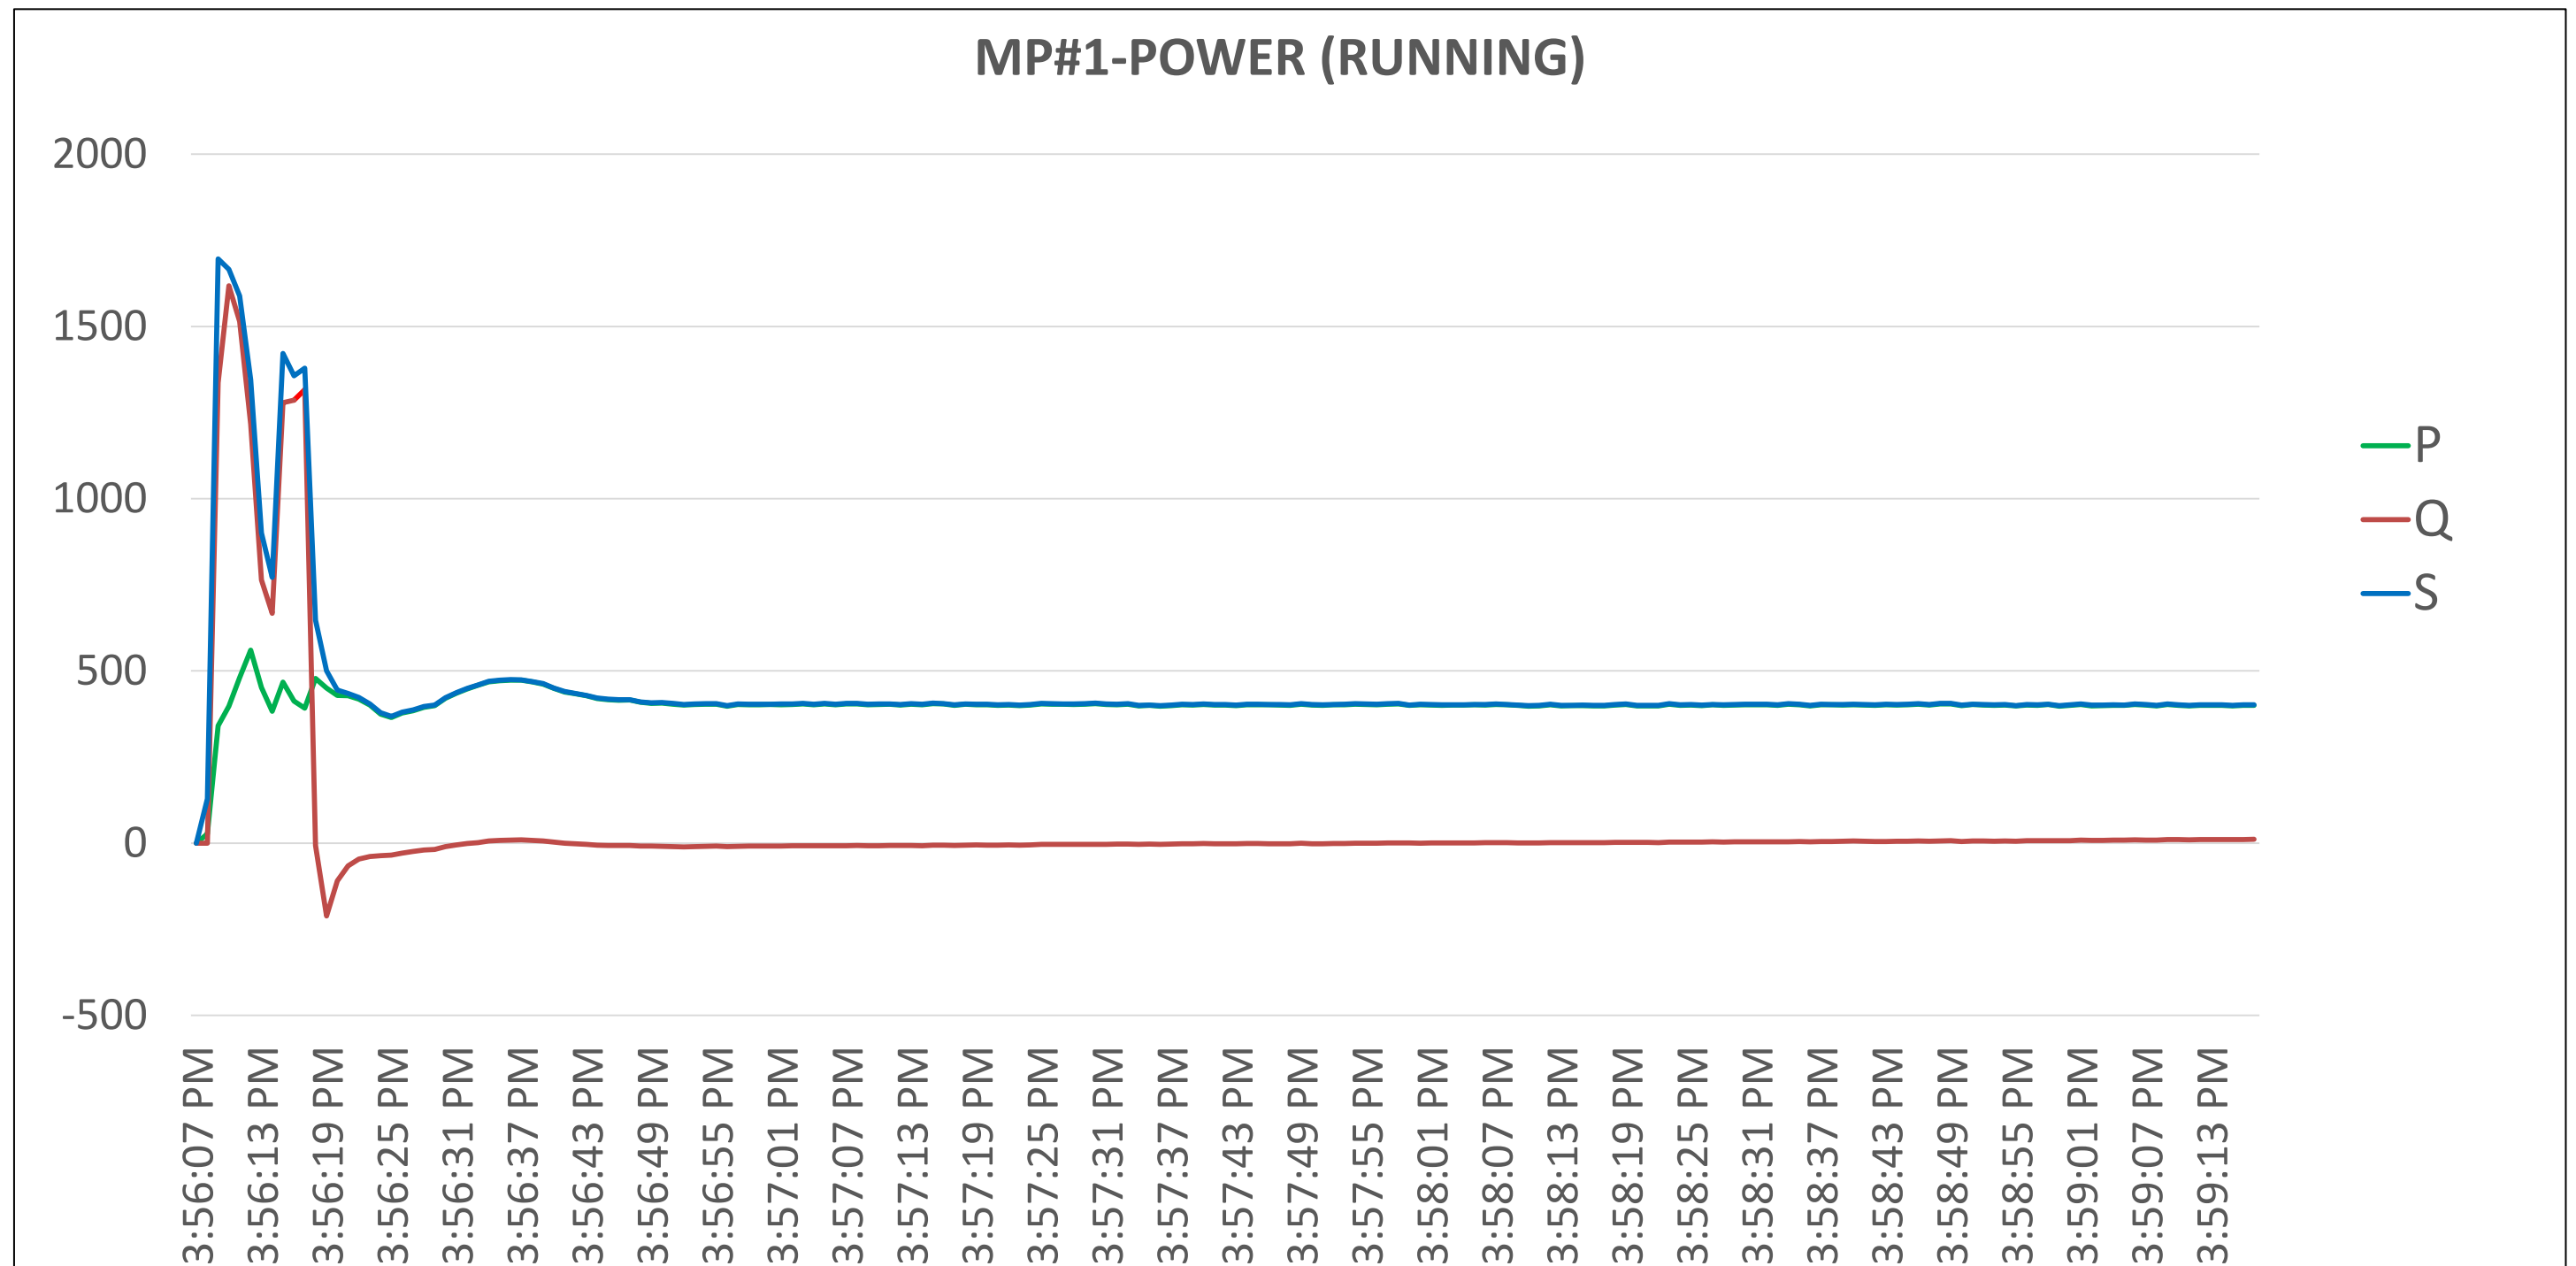

Figure 21-Main Dewatering Pump # 1 Power Summary
- Under power settings are derived from Figures 21, 23 and 25